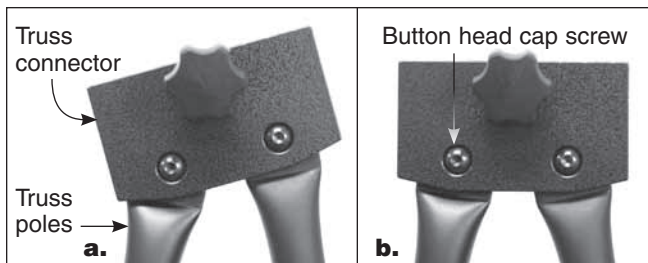
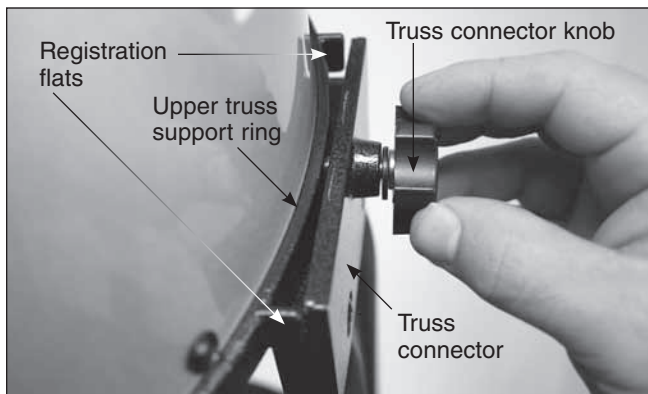

Figure 23. The position of the truss connectors relative to the pole ends can be adjusted to register the truss connectors with the upper truss support ring.
Figure 24. When the knob in the truss connector is tightened, it will clamp the truss connector against the registration flats on the upper truss support ring.
6. Connect the upper tube section to the four truss connectors at the top of the poles. Orient the upper tube section as shown in Figure 22. Hold the upper tube section with one hand while threading the knobs in the truss connectors into the holes in the upper truss support ring. If necessary, you can slightly adjust the position of the truss connector with respect to the pole ends in order to have the knobs and holes line up (Figure 23). When tightened, the knob will clamp the truss connector against the registration flats on the upper truss support ring (Figure 24). Repeat this for the other three truss connectors. Firmly tighten the knobs.
to the truss connectors (see Figure 23). This should rarely need to be done.